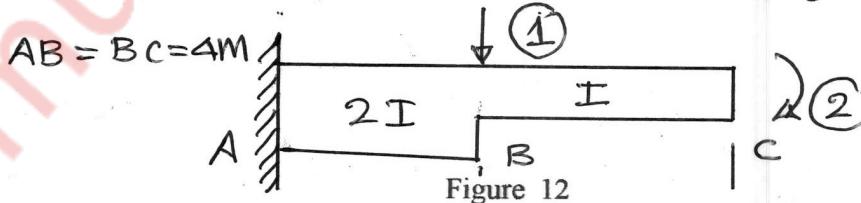

Figure 12
- b) Find the **Flexibility Matrix** w.r.t. co-ordinates shown in Figure 12. 08